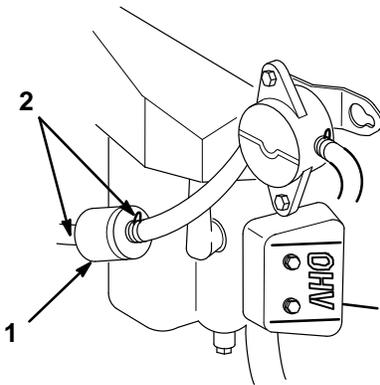

Figure 39
3. Squeeze the ends of the hose clamps together and slide them away from the filter (Fig. 39).